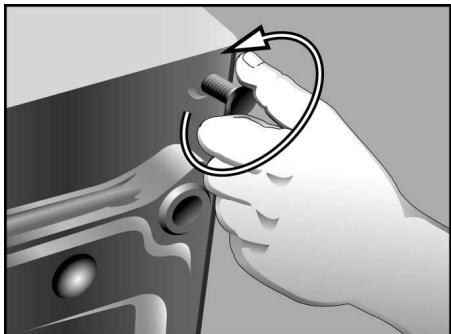

Figure 7
1. Remove the feet originally installed in the appliance (see **Figure 7**). DO NOT reinstall these feet into the pedestal. Retain the feet in case the appliance needs to be reinstalled later without the pedestal.